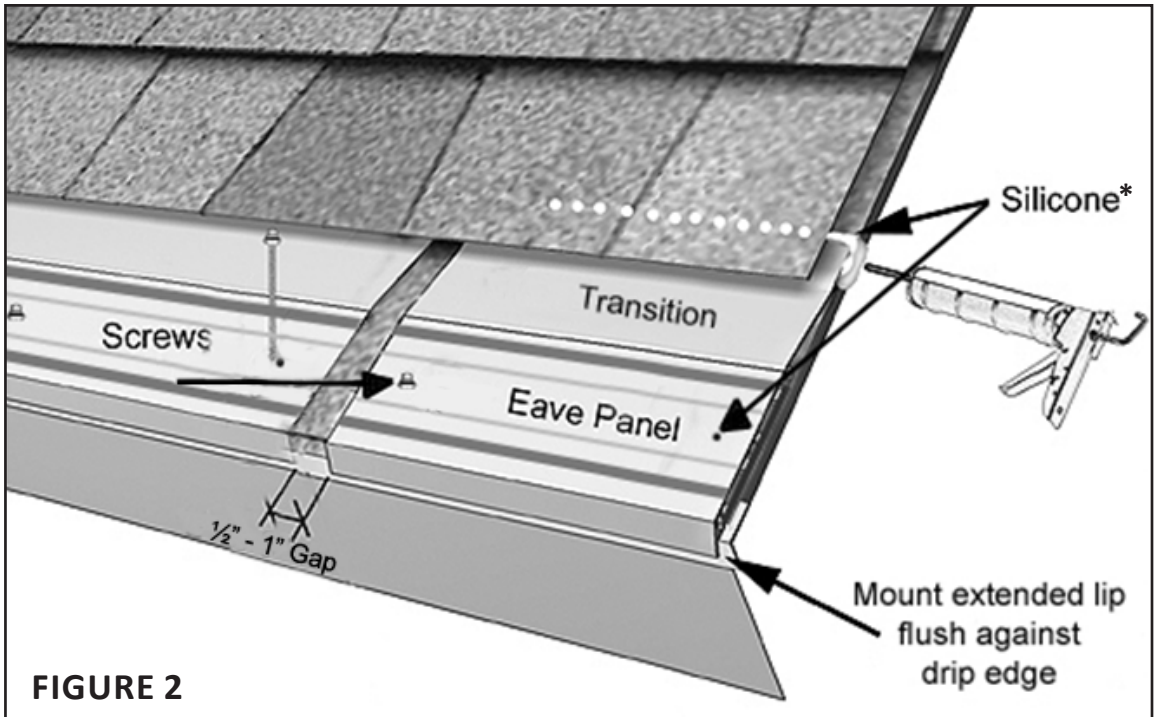

FIGURE 2
a) Eave Panel Attachment FIG 2